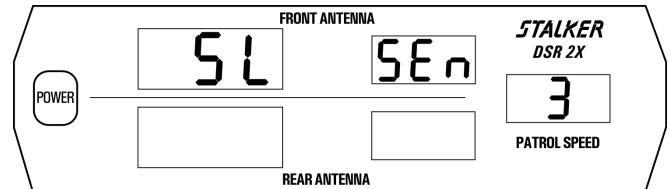

Fig. 4
The Same Lane sensitivity of **STALKER DSR 2X** is adjusted by pressing the remote control **MENU** key three times. The **↑** and **↓** keys then cycle through the five (5) sensitivity levels: **SEN 0**, **SEN 1**, **SEN 2**, **SEN 3**, and **SEN 4** (Fig. 4 shows sensitivity level 3, the factory default setting). In each case, the right-hand display refers to the current sensitivity setting. Sensitivity varies from **SEN 0** (0 range) to **SEN 4** (maximum range). **The sensitivity must be set for same lane mode and opposite lane mode separately.** Press any of the four Target Zone Keys to exit Setup Mode.